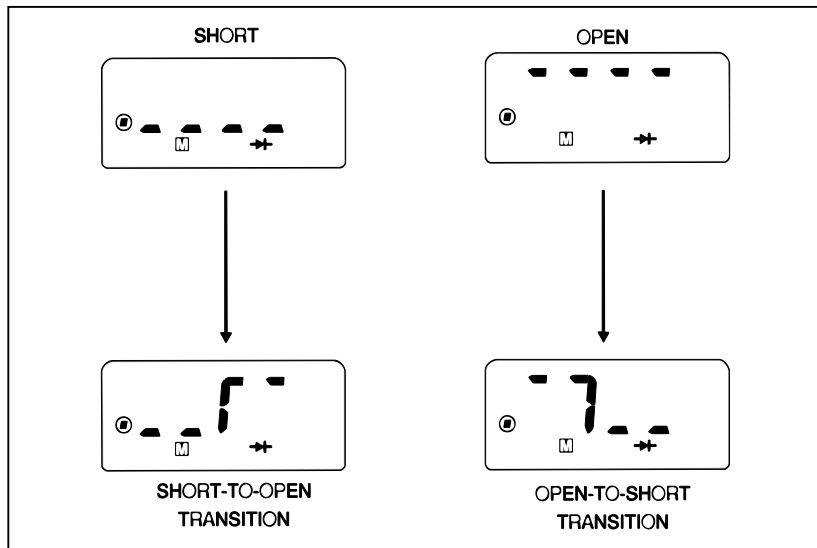

Figure 9. Open-to-Short and Short-to-Open Transitions
3. Press [M]. The display shows the initial condition (either an open or short) as shown in Figure 9, and M is displayed.
If the meter detects a transition, it beeps and the display captures the transition (see Figure 9). Subsequent transitions cause the meter to beep, but the display does not change.